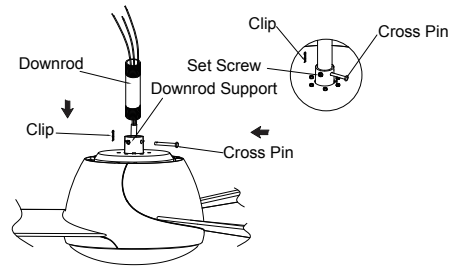

Fig. 7
**Step 4.** Route the black, white, blue wires and safety cable through the downrod. Thread downrod into the downrod support on top of the motor. Install the cross pin by aligning the holes in the downrod support with holes in the downrod. Secure cross pin with clip. Install and tighten the two set screws to the downrod support. (Fig. 7)